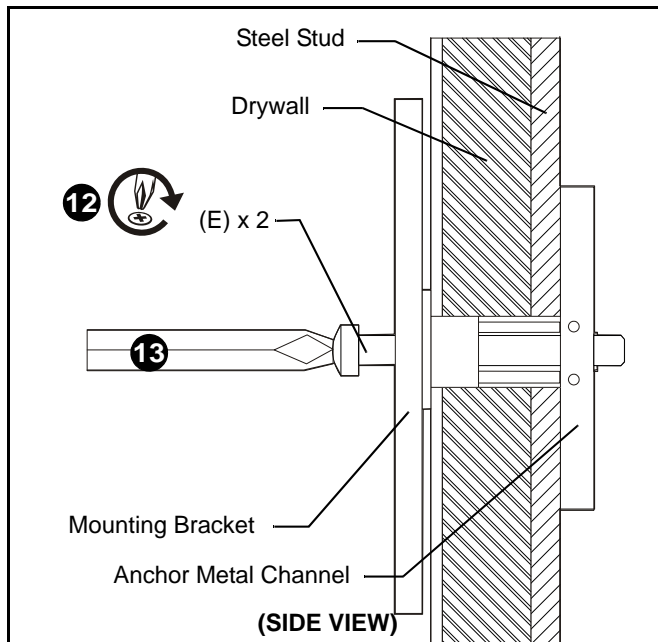

Figure 13
11. Place mounting bracket over anchors and align mounting holes in display mount with holes in anchors. (See Figure 13)
12. Insert 1/4-20 x 1-3/4" Phillips pan head screw (E) into mounting hole on mounting bracket and into anchor (B) and tighten until flush against mounting bracket. DO NOT overtighten! (See Figure 13)